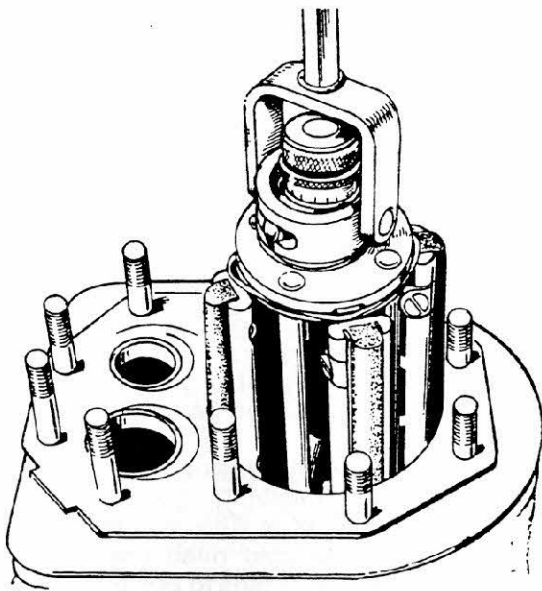

FIGURE 55. HONING CYLINDER
1. A hone can be used to rebore a cylinder, Figure 55. Remove stock to 0.002 inch (0.051 mm) less than finished bore with coarse hone (100 grit), then complete honing with finish hones (300 grit).